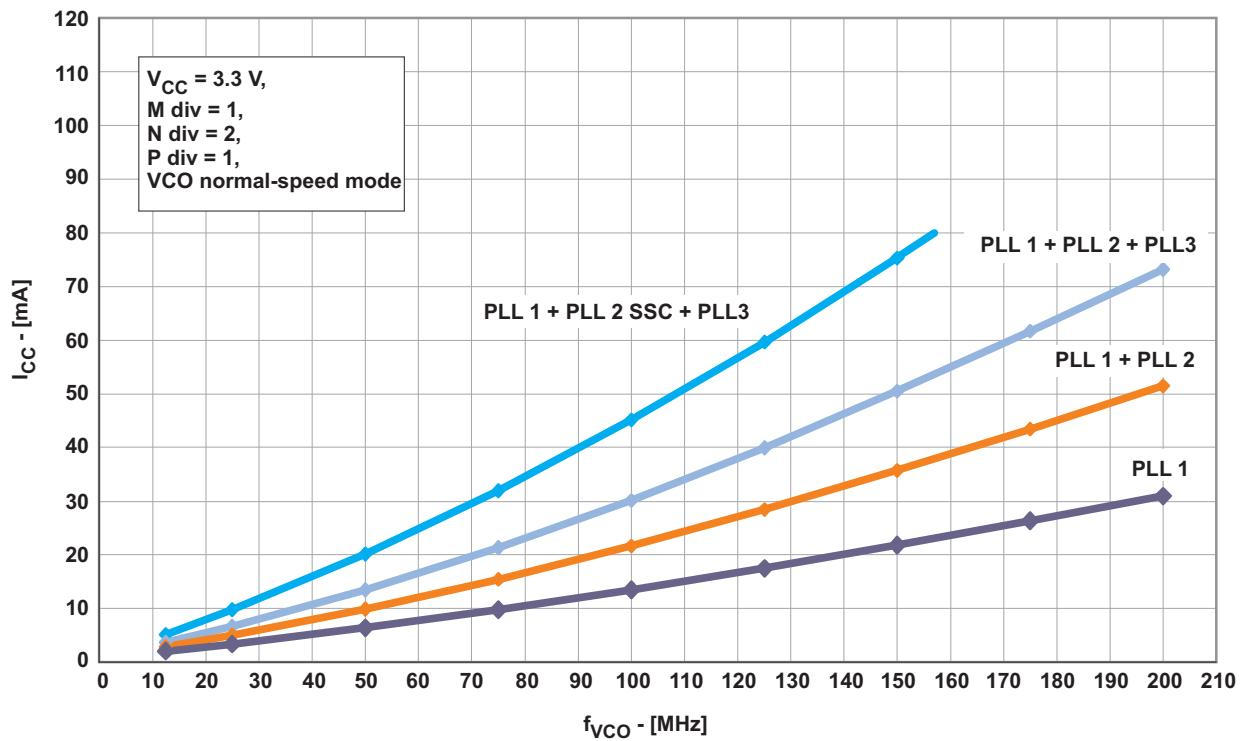
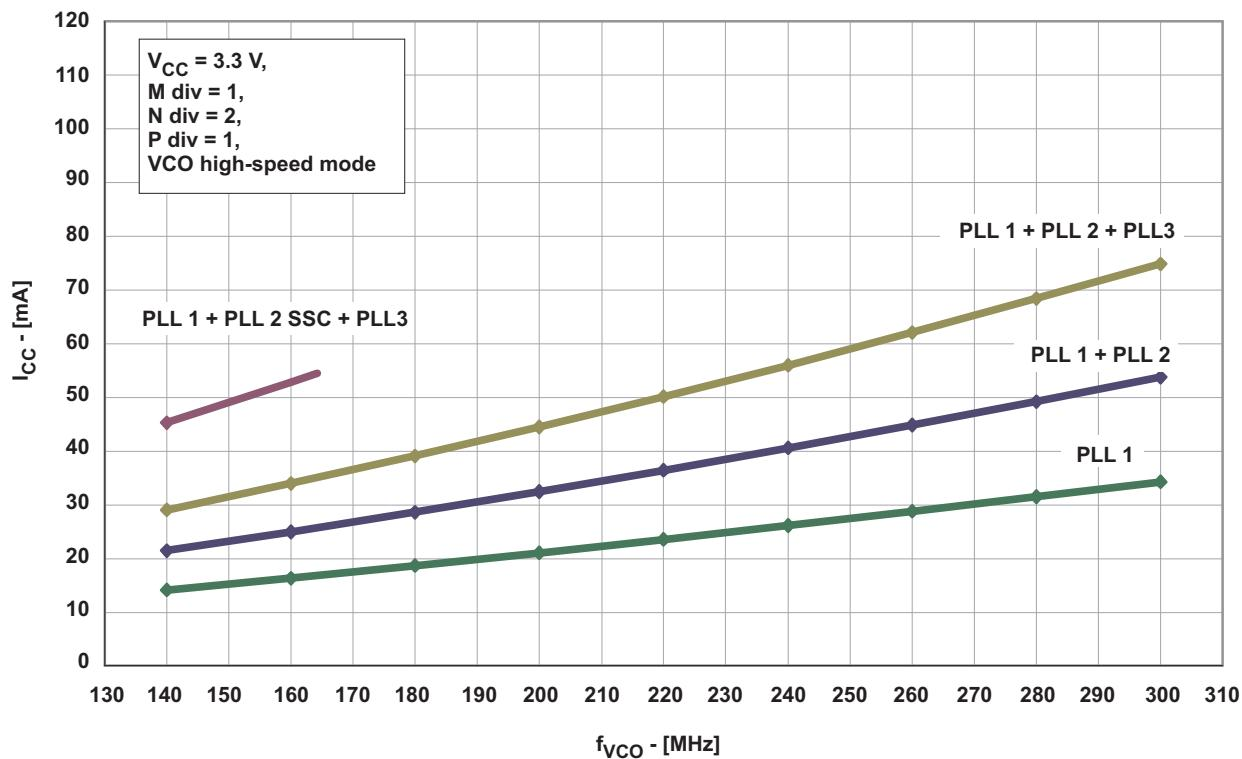
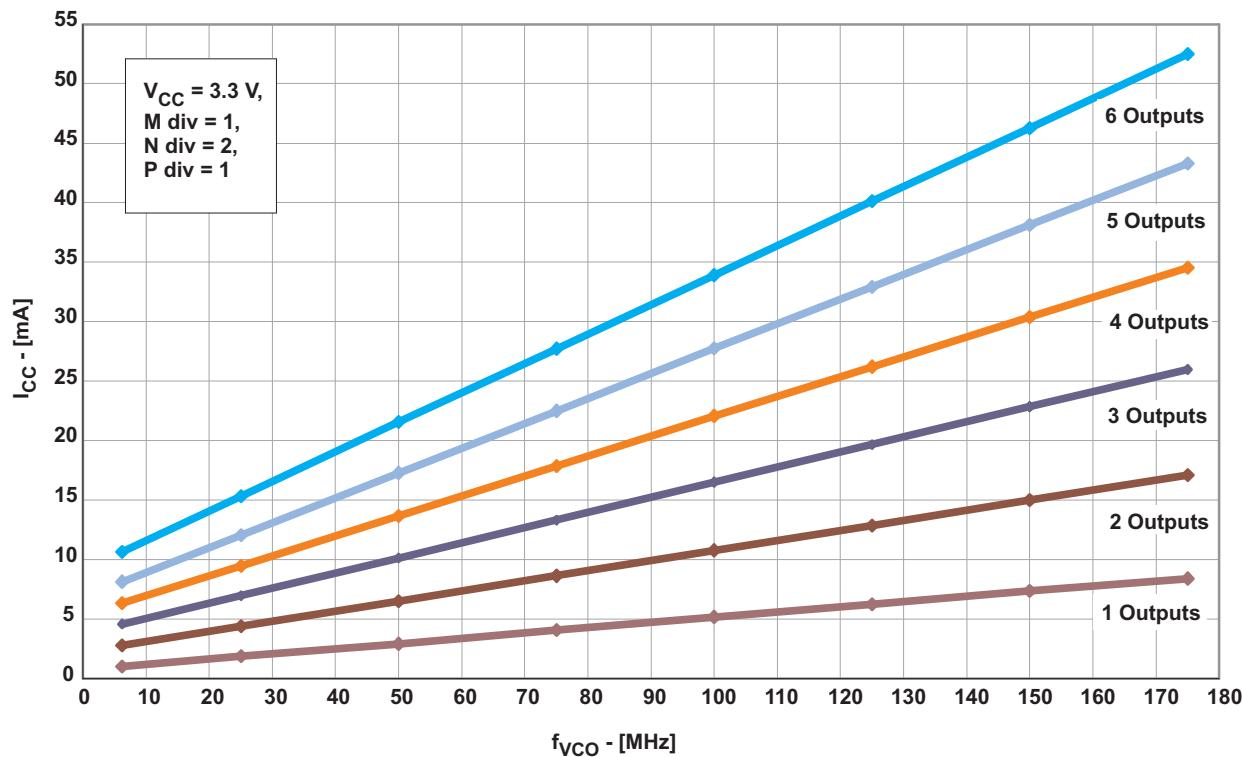

Figure 2. I_{CC} vs Number of PLLs and VCO Frequency (VCO at Normal-Speed Mode, Byte 6 Bit [7:5])
Figure 3. I_{CC} vs Number of PLLs and VCO Frequency (VCO at High-Speed Mode, Byte 6 Bit [7:5])
Figure 4. I_{CCOUT} vs Number of Outputs and VCO Frequency
(1) All typical values are at respective nominal V_{CC} .
(2) For calculating total supply current, add the current from Figure 2, Figure 3, and Figure 4. Using high-speed mode of the VCO reduces the current consumption significantly. See Figure 3
(3) Normal-speed mode or high-speed mode must be selected by the VCO frequency selection bit in Byte 6, Bit [7:5]. The min f_{VCO} can be lower but impacts jitter-performance.
(4) The maximum output frequency may be exceeded, but specifications under the Recommended Operating Condition may change and are no longer assured. Do not exceed the maximum power dissipation of the 20-pin TSSOP package (600 mW at no air flow).